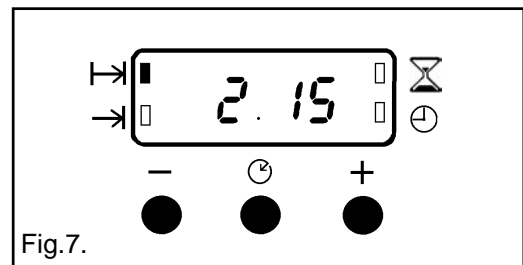

Fig.7.
- iii) To set the length of cooking time, press the Selector Control button () until the 'Cook Time' indicator is illuminated (). Press the increase control (+) until the required length of cooking time is displayed, e.g. 2 hrs 15 mins as Fig. 7. If necessary depress the decrease control (-) until the correct time interval is achieved.